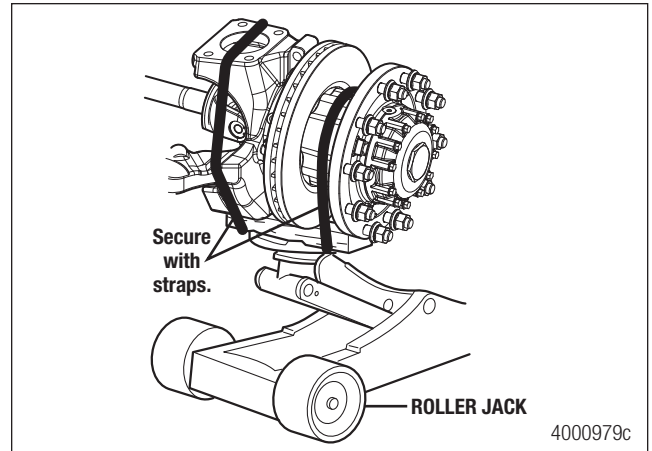

Figure 5.4
1. Secure the wheel end and knuckle to a suitable lifting device. Remove the wheel end, knuckle and front axle shaft together from the axle housing. Figure 5.4.